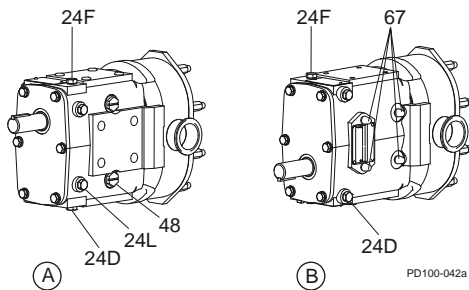

Figure 24 - Lubrication Points
Table 1: Callout table for Figure 24
Excess grease will accumulate in the gear case and must be removed through the cleanout hole covered with a plastic plug (Figure 24, item 48).